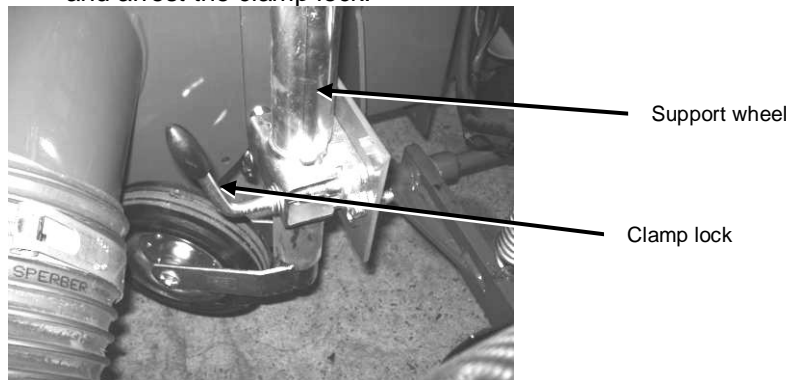

Fig. 46: Front support wheel
1. Loosen the clamp lock of the front support wheel on the CLS, lower the support wheel, then arrest the clamp lock (see Fig. 46)